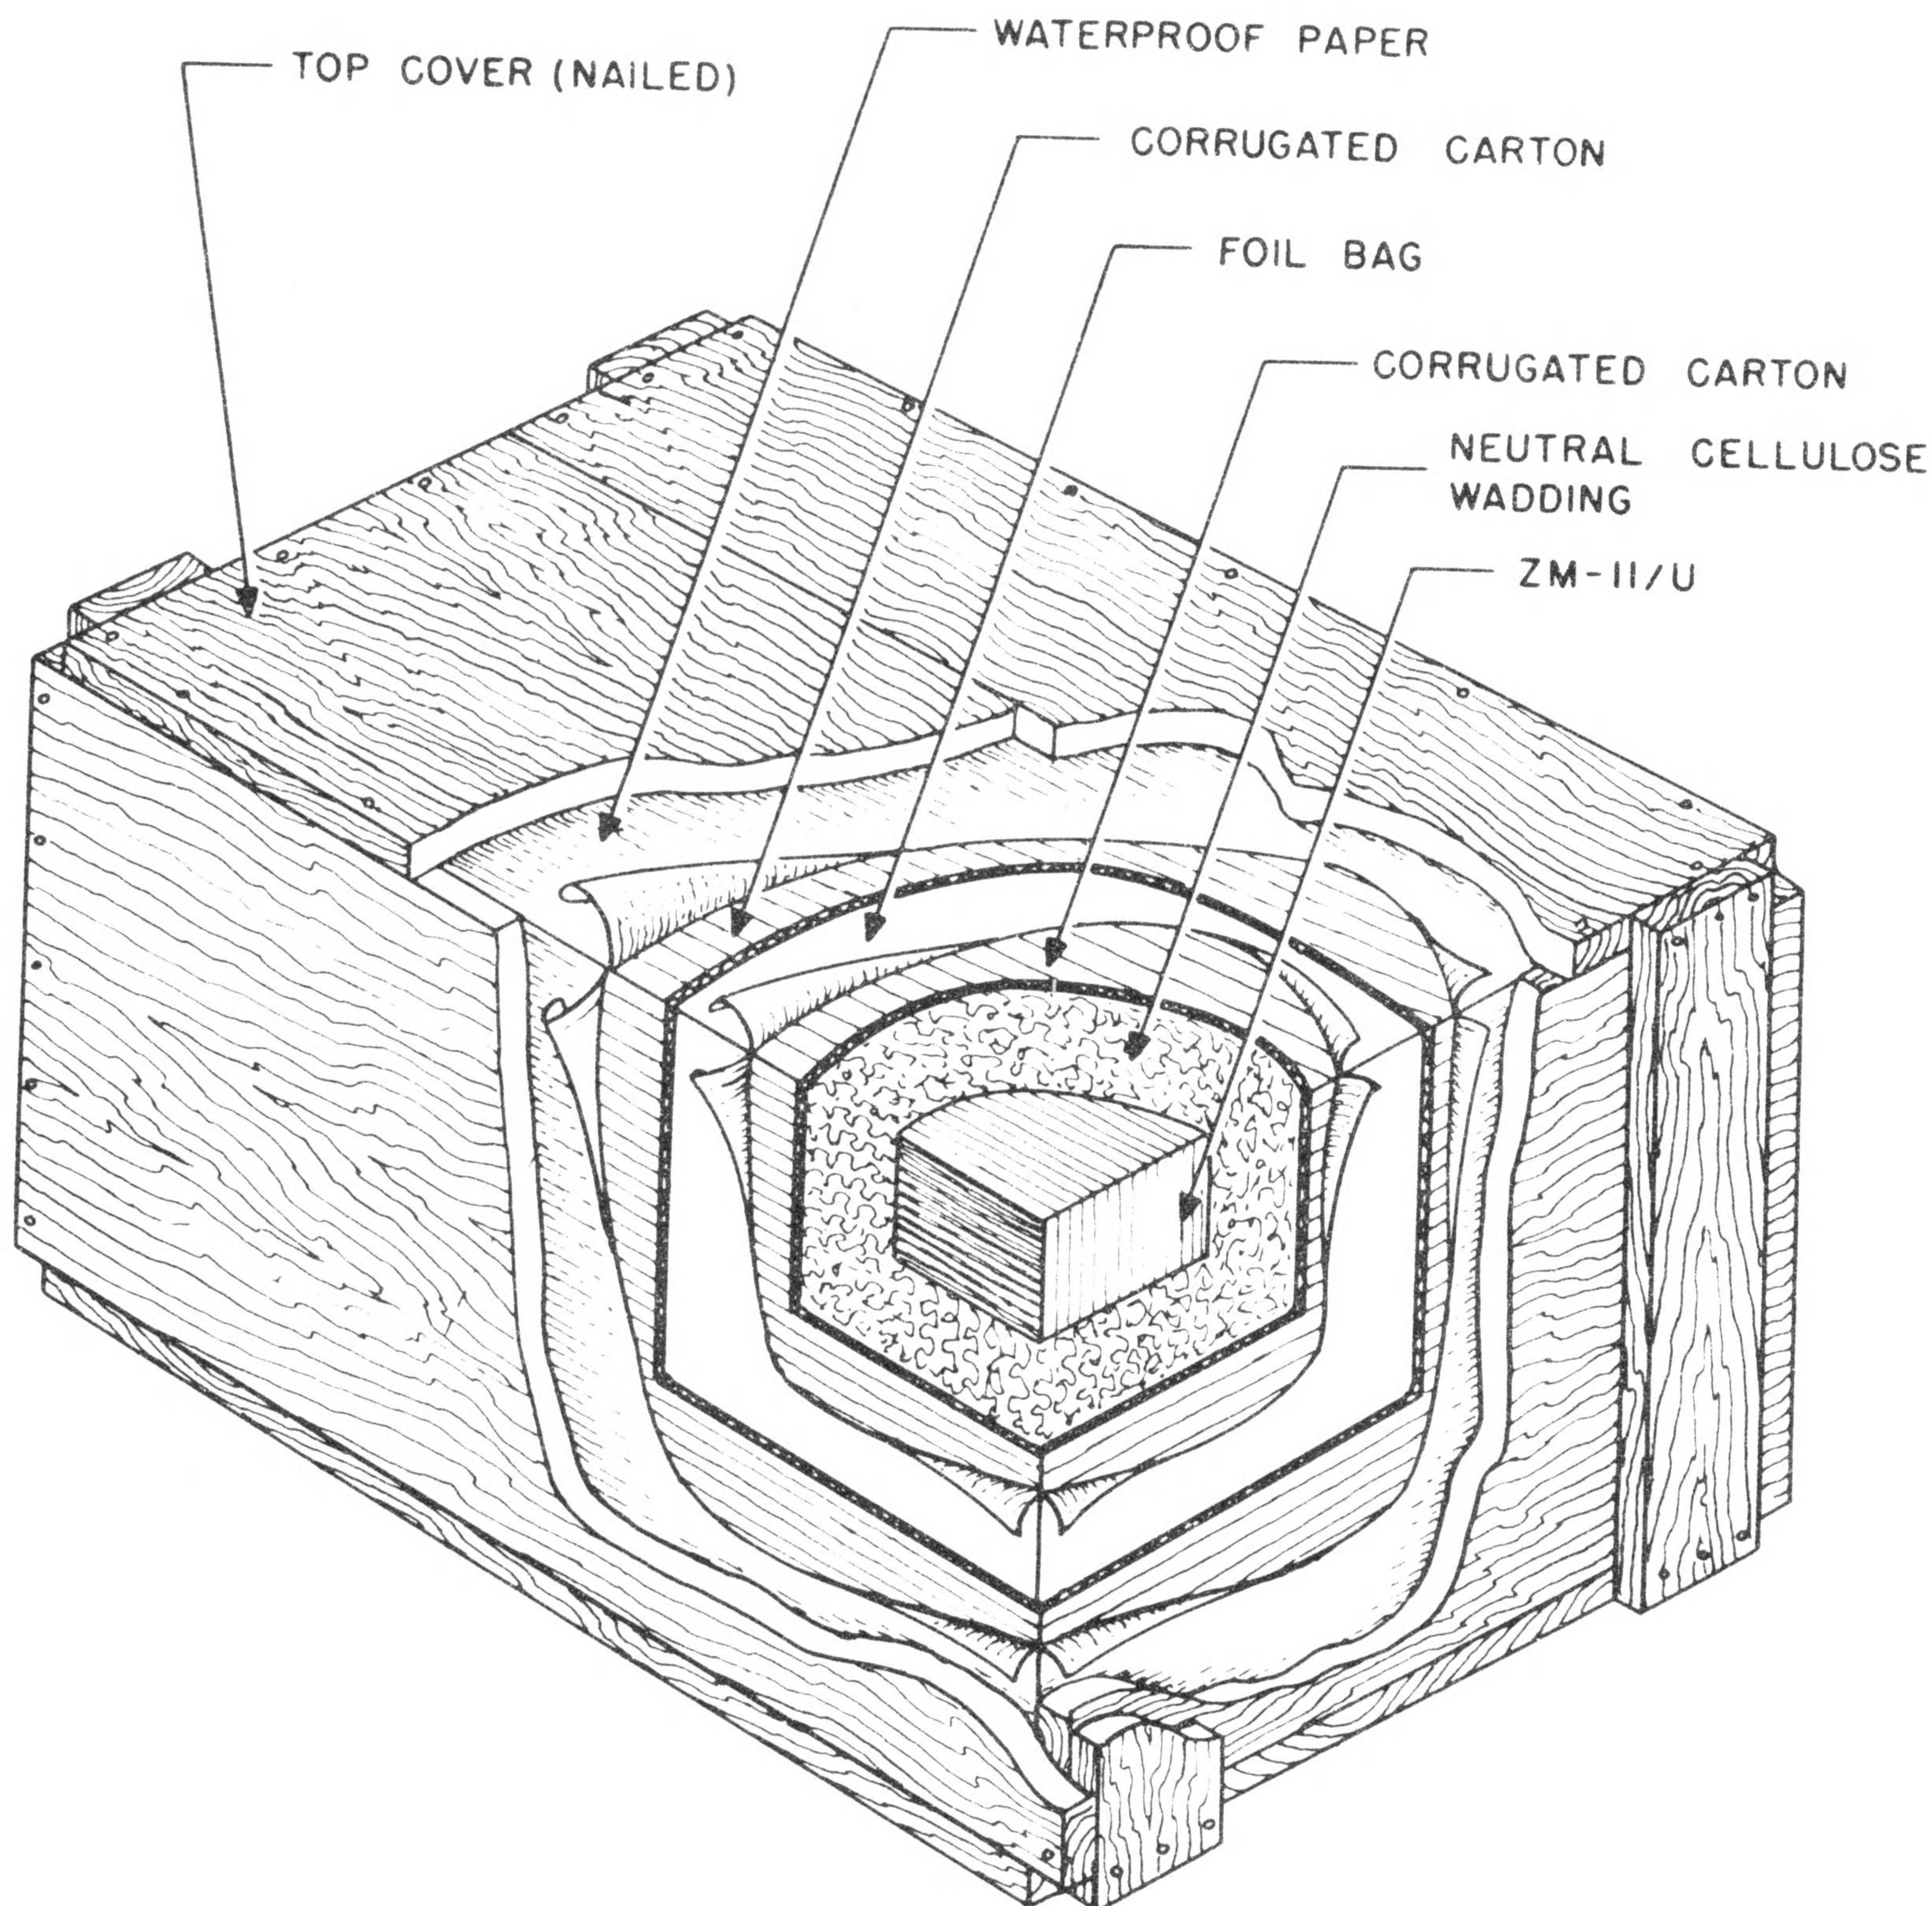

Figure 3-1. Bridge, Type ZM-11/U, Unpacking Procedure.
b. Figure 3-1 shows the details of the export packaging and contains numbered instructions for the unpacking procedure. Check the contents against the master packing slip.